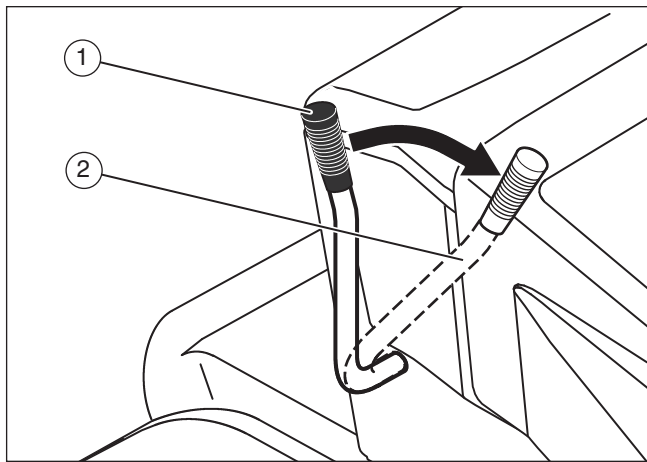

Figure 8
2. Move the blade rotation control to the DIS-ENGAGE position (1) (see **Figure 8**).
10. Move the blade rotation control to the ENGAGE position (2) (see **Figure 8**).